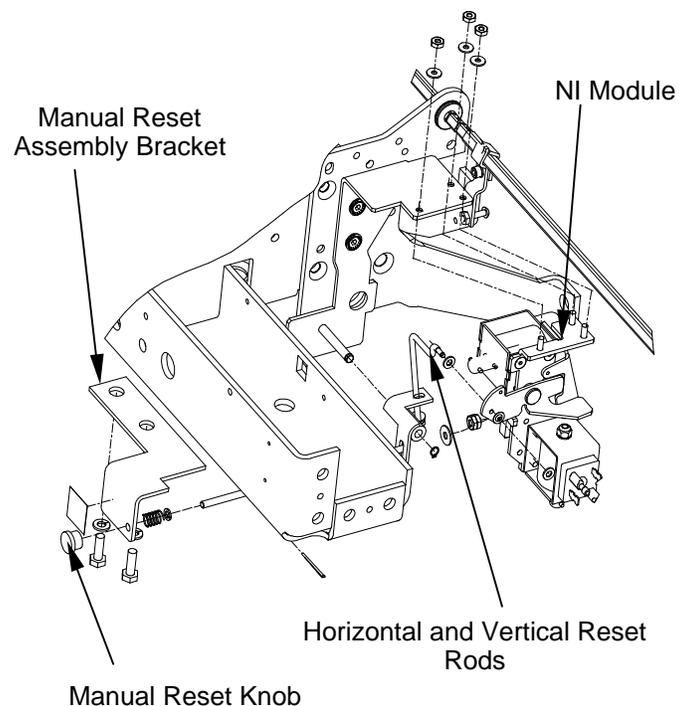
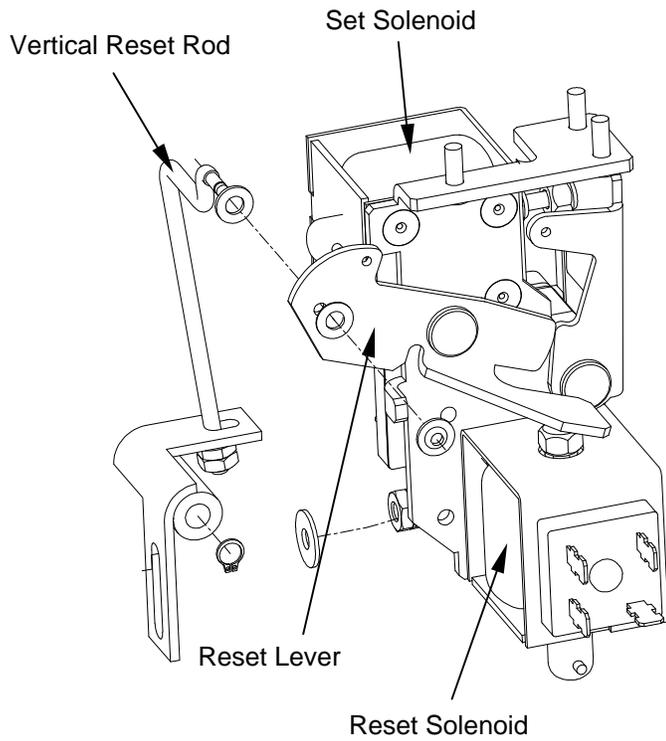

Figure 66. Network Interlock module and manual reset mounting
Figure 68. Manual reset assembly interface with Network Interlock module
Use the following procedure, illustrated in Figure 66 and Figure 68 to remove the Network Interlock module.
2. Remove the push nut and washer from the top of the manual reset rod and slide the rod out of the reset lever as shown in Figure 68.
3. Remove the Network Interlock module from the mounting plate by removing the three nuts and washers, as shown in Figure 66.
Use the following procedure to install the Network Interlock module as a replacement, as illustrated in Figure 66. If this is a new installation into a breaker that was not equipped at the factory with a Network Interlock, see the
3. Fasten the Network Interlock module to the mounting bracket using three sets of # 8-32 nuts, spring washers, and flat washers as shown in Figure 66.
8. Fasten the top end of the vertical manual reset rod to the reset lever with the push nut shown in Figure 68.